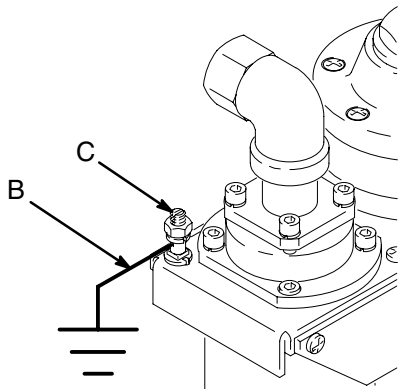
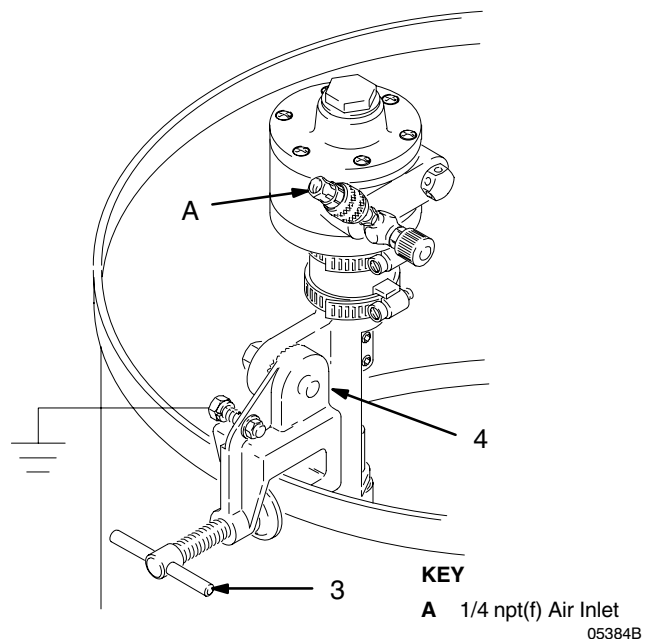

Fig. 1 03024
Fig. 2 05384B
NOTE: The reference numbers and letters in parentheses in the text refer to Fig. 1, Fig. 2 and the Parts Drawing.
Connect one end of the ground wire (B) to the mixer's ground connector (C). See Fig. 1. Connect the other end of the ground wire to a true earth ground. Order Part No. 237569, Ground Wire and Clamp.
Mount the agitator on the edge of the drum or tank and securely tighten the clamp screw (3). See Fig. 2. To adjust the angle of the agitator in the drum, loosen the bracket screw (4). Adjust the agitator to the desired angle, then retighten the screw securely.